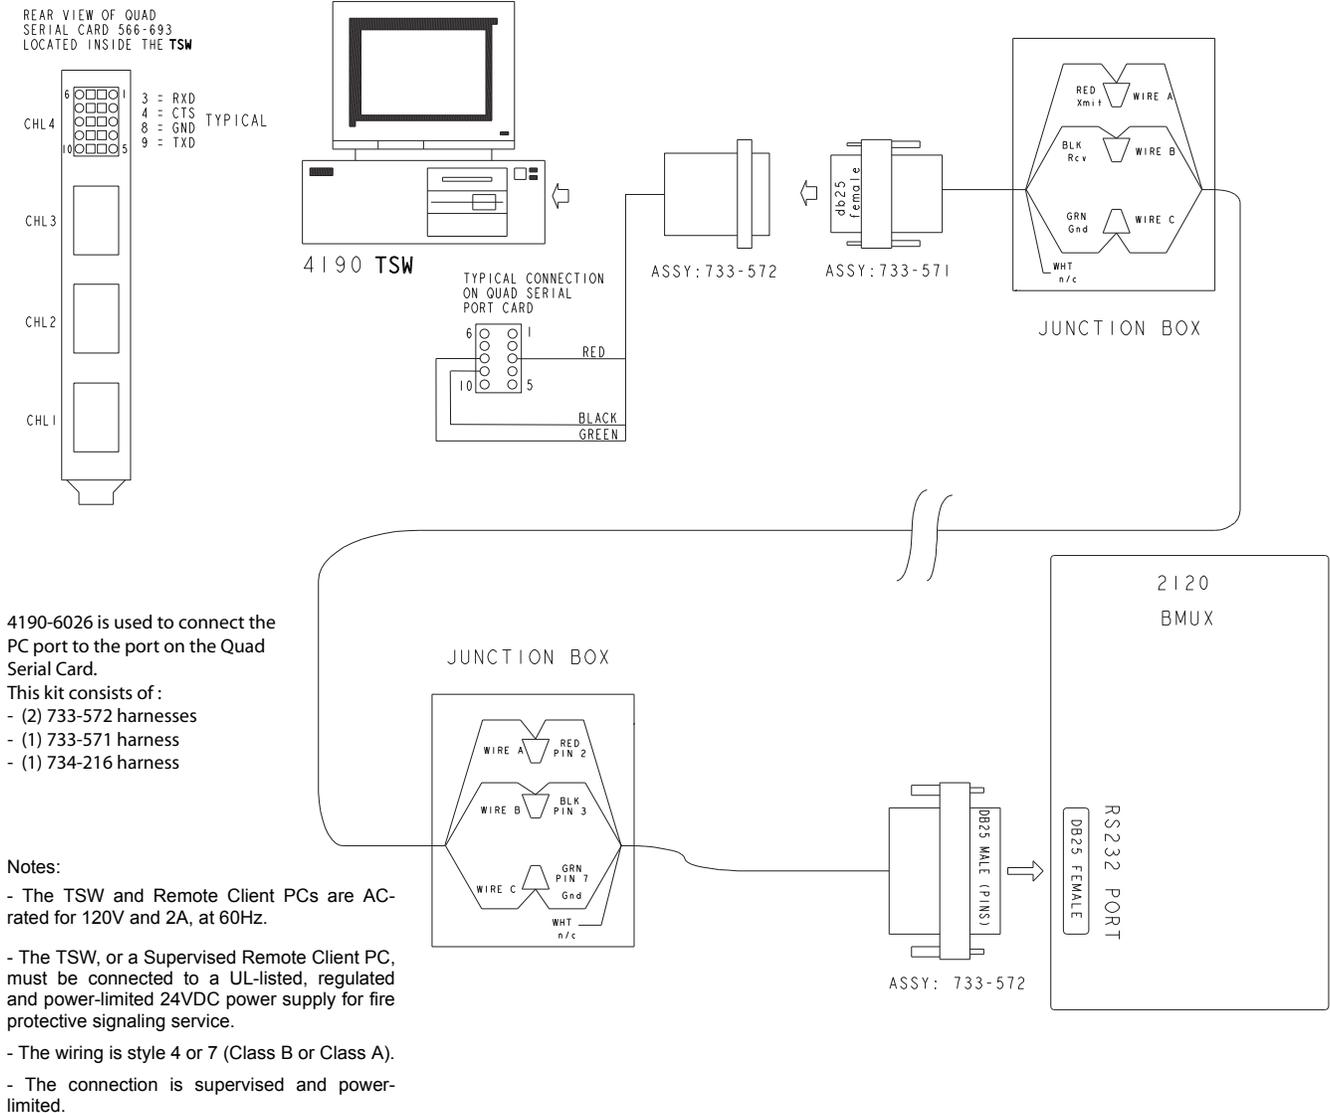

Figure 5-6 Connecting 2120 BMUX Nodes to the TSW
Table 5-1 lists the required cable and connectors to complete the installation. Figure 5-5 and Figure 5-6 show a diagram of how to connect the cables and connectors from the RS232 port on each 2120 node to the RS232 connector on the CPU.
- If you are connecting the 2120 to the TSW without an adapter cable (using DB25 connector), refer to the diagram in Figure 5-6 for details.